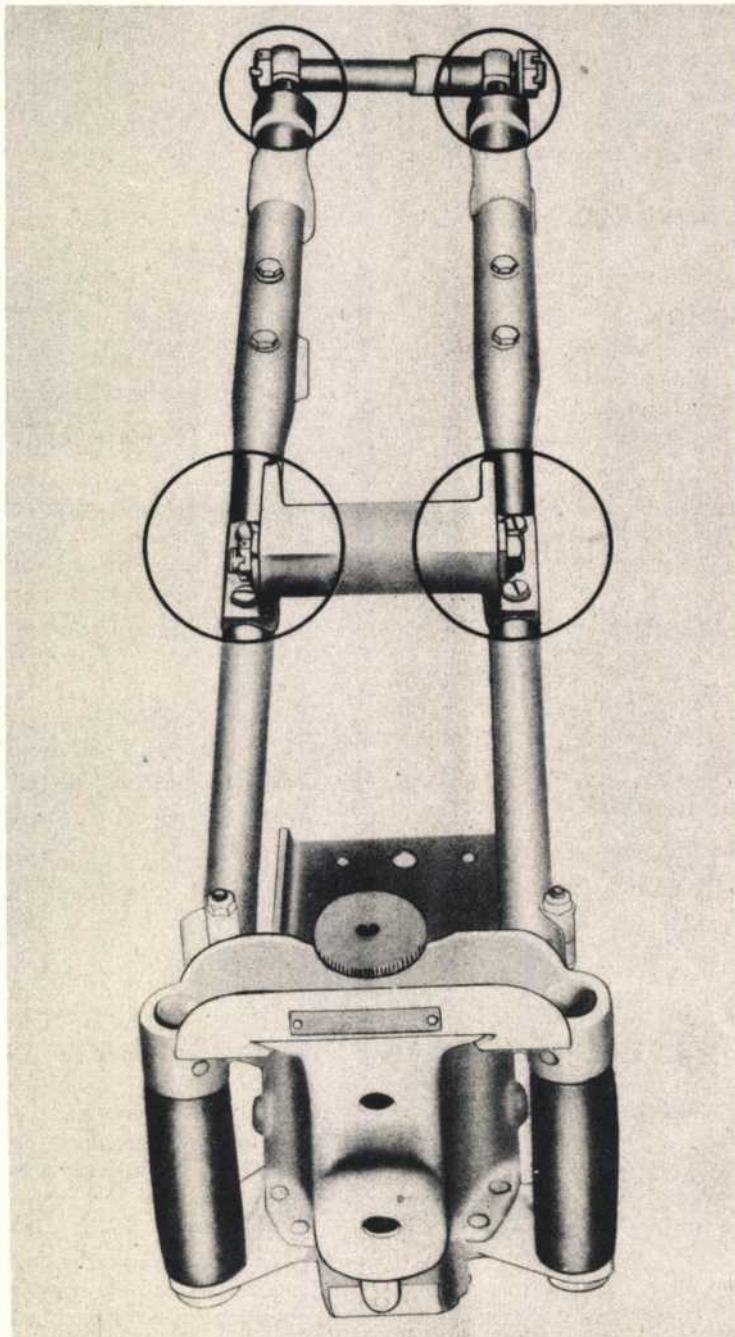

Figure 12—Lubrication Chart
b. Using grease, Specification No. AN-G-3, apply directly to shock unit piston (figure 12) and to faces of the slots in the rear trunnion support.